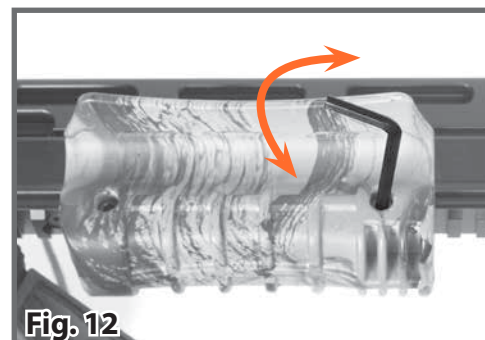

Fig. 12
1. Loosen the 2 foregrip screws. (Fig. 12)